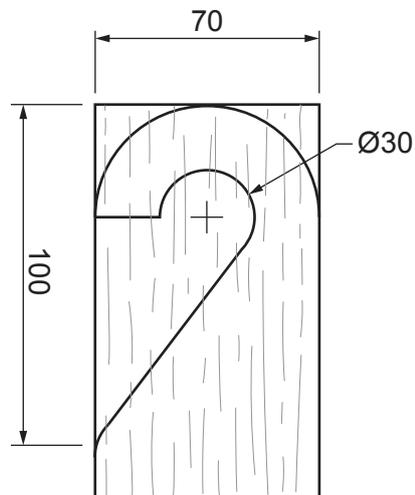

Fig. 12.3
- (b) Fig. 12.3 shows the hook shape of the back of the storage unit marked out, ready to be cut out and shaped. Use sketches and notes to show how the shape could be produced. Name all the tools and equipment used.